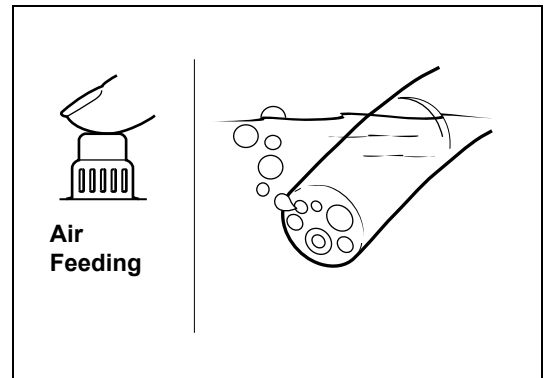

Figure 3.3
- 3 Air/water is supplied through the scope. If you insert the distal end of the scope into water and gently cover the air hole on the air/water valve of the scope, air comes out of the distal end of the scope. You can confirm the air supply by checking whether air bubbles are generated. (Refer to Figure 3.3)